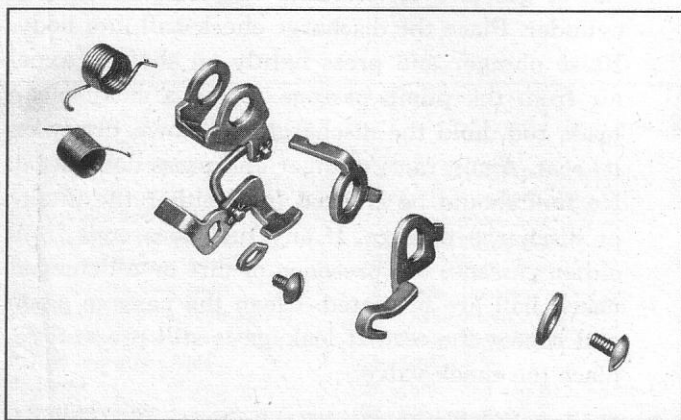

Fig. 109—Throttle Shaft Levers
2. Install primary throttle shaft dog levers and spring (fig. 109).